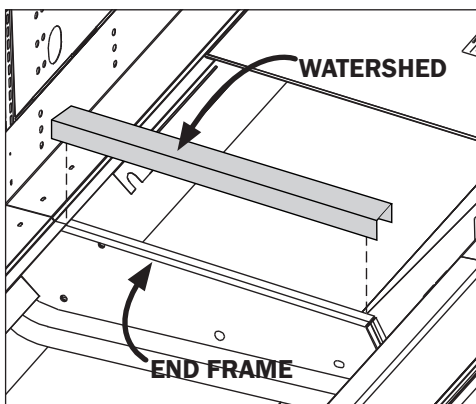

Fig. 2 Sealing the pipe chase
6. Apply case-to-case watershed (supplied) over the end frame seam (Fig. 2). The watershed prevents water from settling in the case joint.